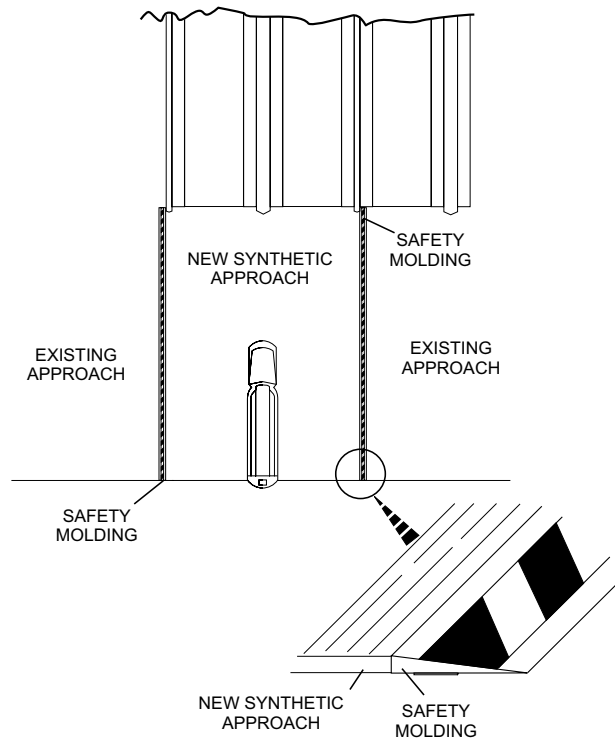

Figure 3
7. When the workday is finished, apply the safety molding onto the original approach and next to the new synthetic approach. This is done with two-side tape. This will provide a smooth transition between the two surfaces as well as a visual warning. Refer to *Figure 3*.